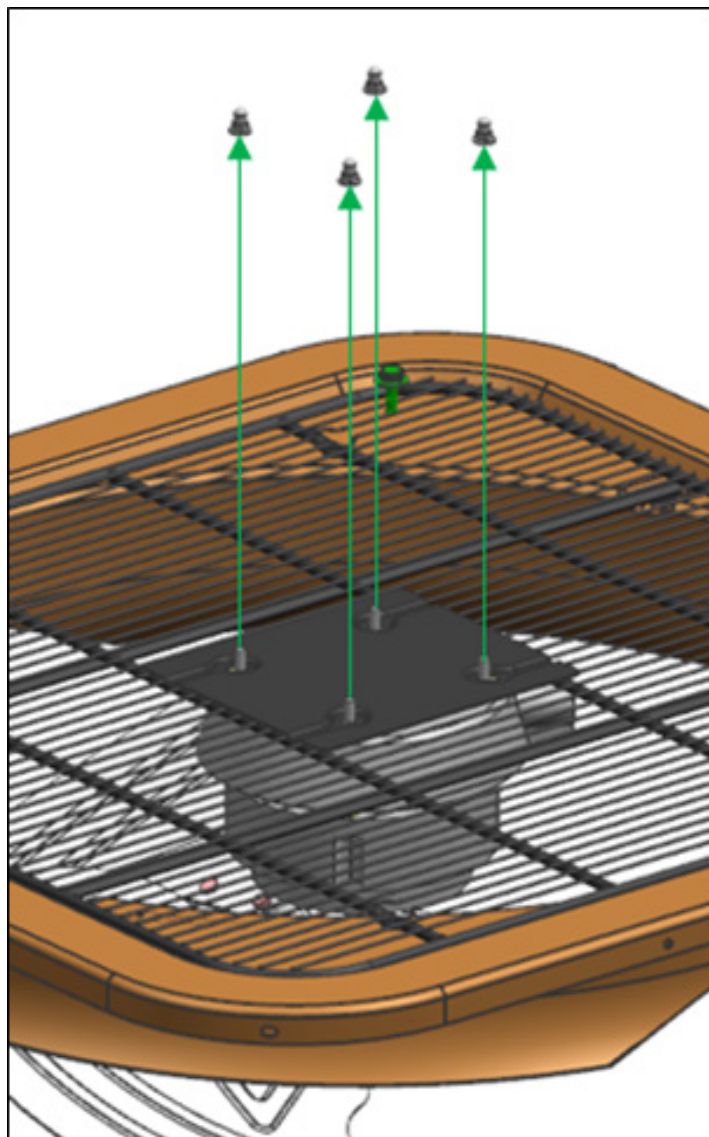

Fig.5
6. The fan assembly is held on to the grille by four nuts (Fig.5). Remove them while making sure that the assembly doesn't fall free when the nuts are removed;